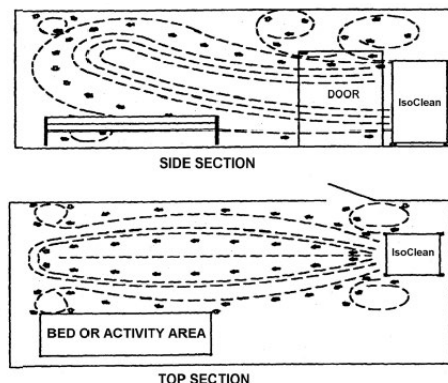

Figure 1: Recommended Hospi-Gard IsoClean Positioning within a Patient Room
3. For maximum recirculation efficiency, the unit should be placed between the entry door and the patient’s bed or the activity area (see Figure 1 below). However, the unit will function effectively at other locations within the room.